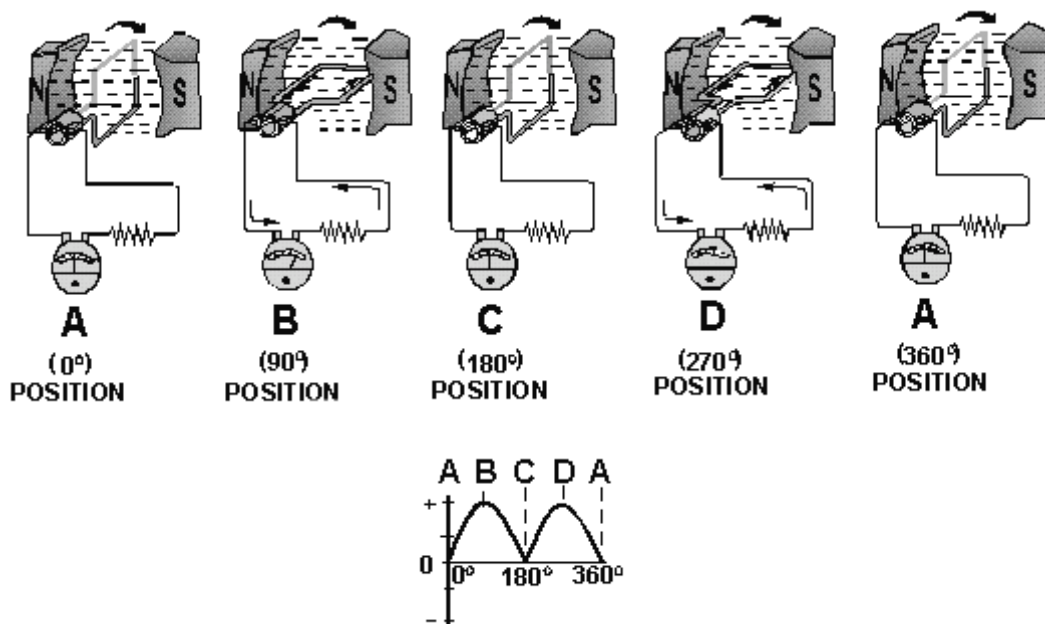

Figure 1-4.—Effects of commutation.
A single-loop generator with each terminal connected to a segment of a two-segment metal ring is shown in figure 1-4. The two segments of the split metal ring are insulated from each other. This forms a simple COMMUTATOR. The commutator in a dc generator replaces the slip rings of the ac generator. This is the main difference in their construction. The commutator mechanically reverses the armature loop connections to the external circuit. This occurs at the same instant that the polarity of the voltage in the armature loop reverses. Through this process the commutator changes the generated ac voltage to a pulsating dc voltage as shown in the graph of figure 1-4. This action is known as commutation. Commutation is described in detail later in this chapter.
For the remainder of this discussion, refer to figure 1-4, parts A through D. This will help you in following the step-by-step description of the operation of a dc generator. When the armature loop rotates clockwise from position A to position B, a voltage is induced in the armature loop which causes a current in a direction that deflects the meter to the right. Current flows through loop, out of the negative brush, through the meter and the load, and back through the positive brush to the loop. Voltage reaches its maximum value at point B on the graph for reasons explained earlier. The generated voltage and the current fall to zero at position C. At this instant each brush makes contact with both segments of the commutator. As the armature loop rotates to position D, a voltage is again induced in the loop. In this case, however, the voltage is of opposite polarity.
**NOTE:** Effective voltage is the equivalent level of dc voltage, which will cause the same average current through a given resistance. By using additional armature coils, the voltage across the brushes is not allowed to fall to as low a level between peaks. Compare the graphs in figure 1-4 and 1-5. Notice that the ripple has been reduced. Practical generators use many armature coils. They also use more than one pair of magnetic poles. The additional magnetic poles have the same effect on ripple as did the additional armature coils. In addition, the increased number of poles provides a stronger magnetic field (greater number of flux lines). This, in turn, allows an increase in output voltage because the coils cut more lines of flux per revolution.